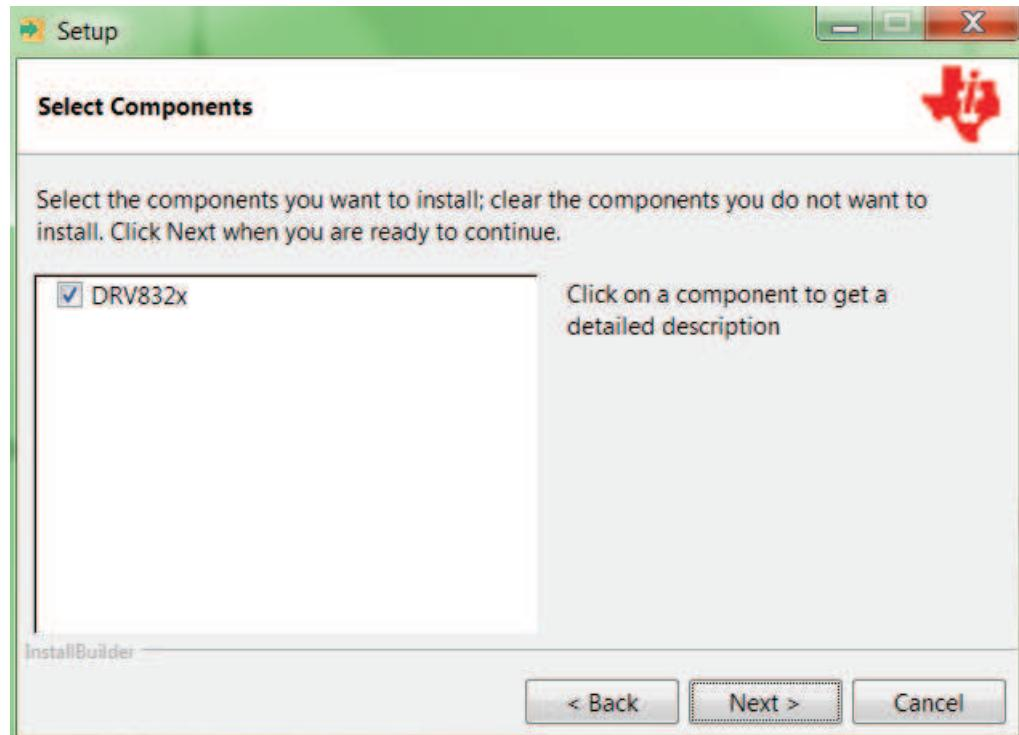

Figure 19. Select Setup Components
Step 6. Select each DRV8x components to Install (see Figure 19).